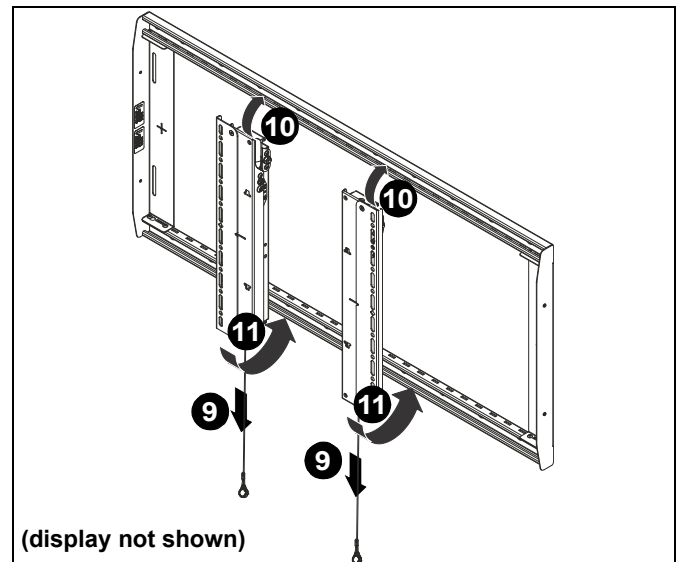

Figure 26
9. Lower home latch release cords on each interface bracket (A and B). (See Figure 26)
10. Raise display with attached interface brackets and hook top of brackets into top of mount. (See Figure 26)
11. Slide interface rail hooks under lower rail. (See Figure 26)